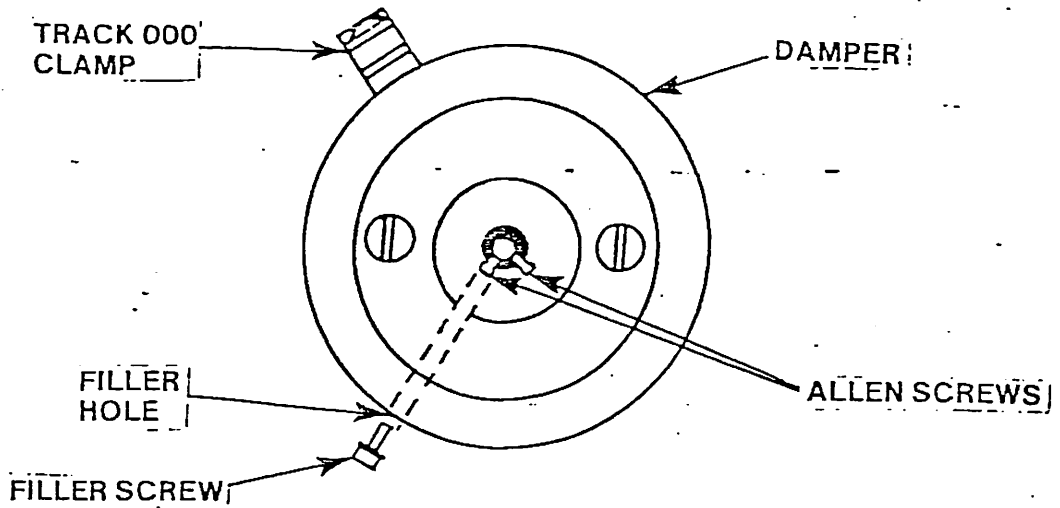

FIGURE 2 ALLEN SCREW LOCATIONS
5. Hold track 000 clamp steady and rotate damper until Allen screws are positioned as shown in figure 2